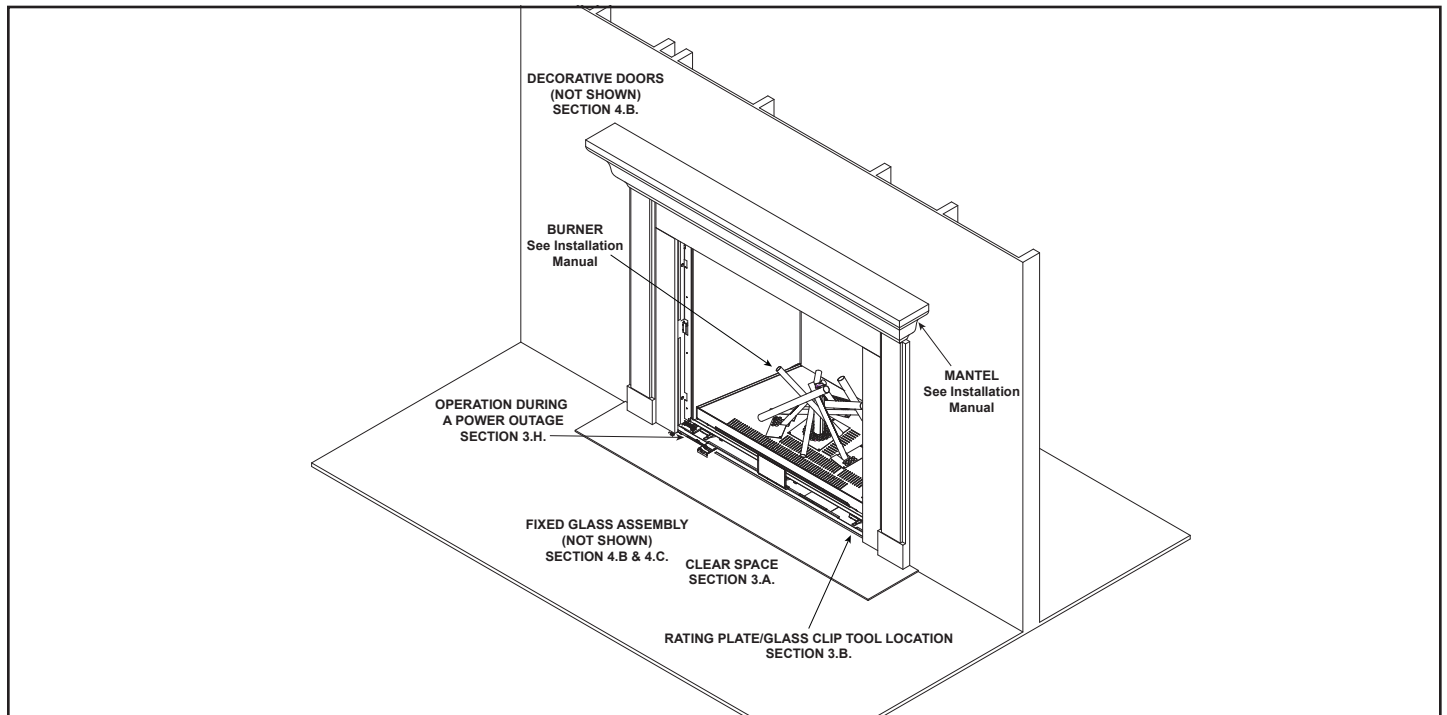

Figure 3.2 General Operating Parts
Figure 3.2 references the general operating parts of the appliance and the section of this manual in which they are discussed.
1. Access the factory-installed battery pack located in the lower left corner of the appliance adjacent to the control module. See Figure 3.2 for location. The decorative front or door may need to be removed.